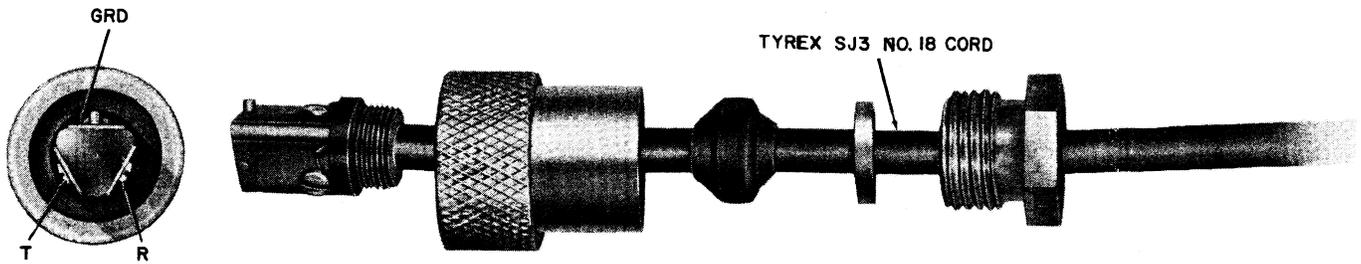

Fig. 8—KS-8419 Plug
2.08 The KS-8419 plug (Fig. 8) is a 3-contact, brass plug intended for connecting telephone sets installed on boats, trains, or auto trailers to outdoor jacks of PBX or CO lines. This plug is intended for use with KS-8420 or KS-8421 jacks.
- (1) Plug components are assembled to TYREX SJ3 No. 18 cord or equivalent (Fig. 8).
- (2) In TYREX SJ3 No. 18 cord or equivalent, the black conductor should be used for the ring (negative) side of the line. The white conductor should be used for tip (positive) side of the line. The green conductor is the ground conductor.
- (3) One terminal of the KS-8419 plug has a small lug protruding from the contact. This lug and the notched terminal on KS-8420 and KS-8421 jacks are provided to ensure that the plug is inserted in one position only.
- (4) When ground is necessary for service, the green conductor should be terminated on the notched terminal.